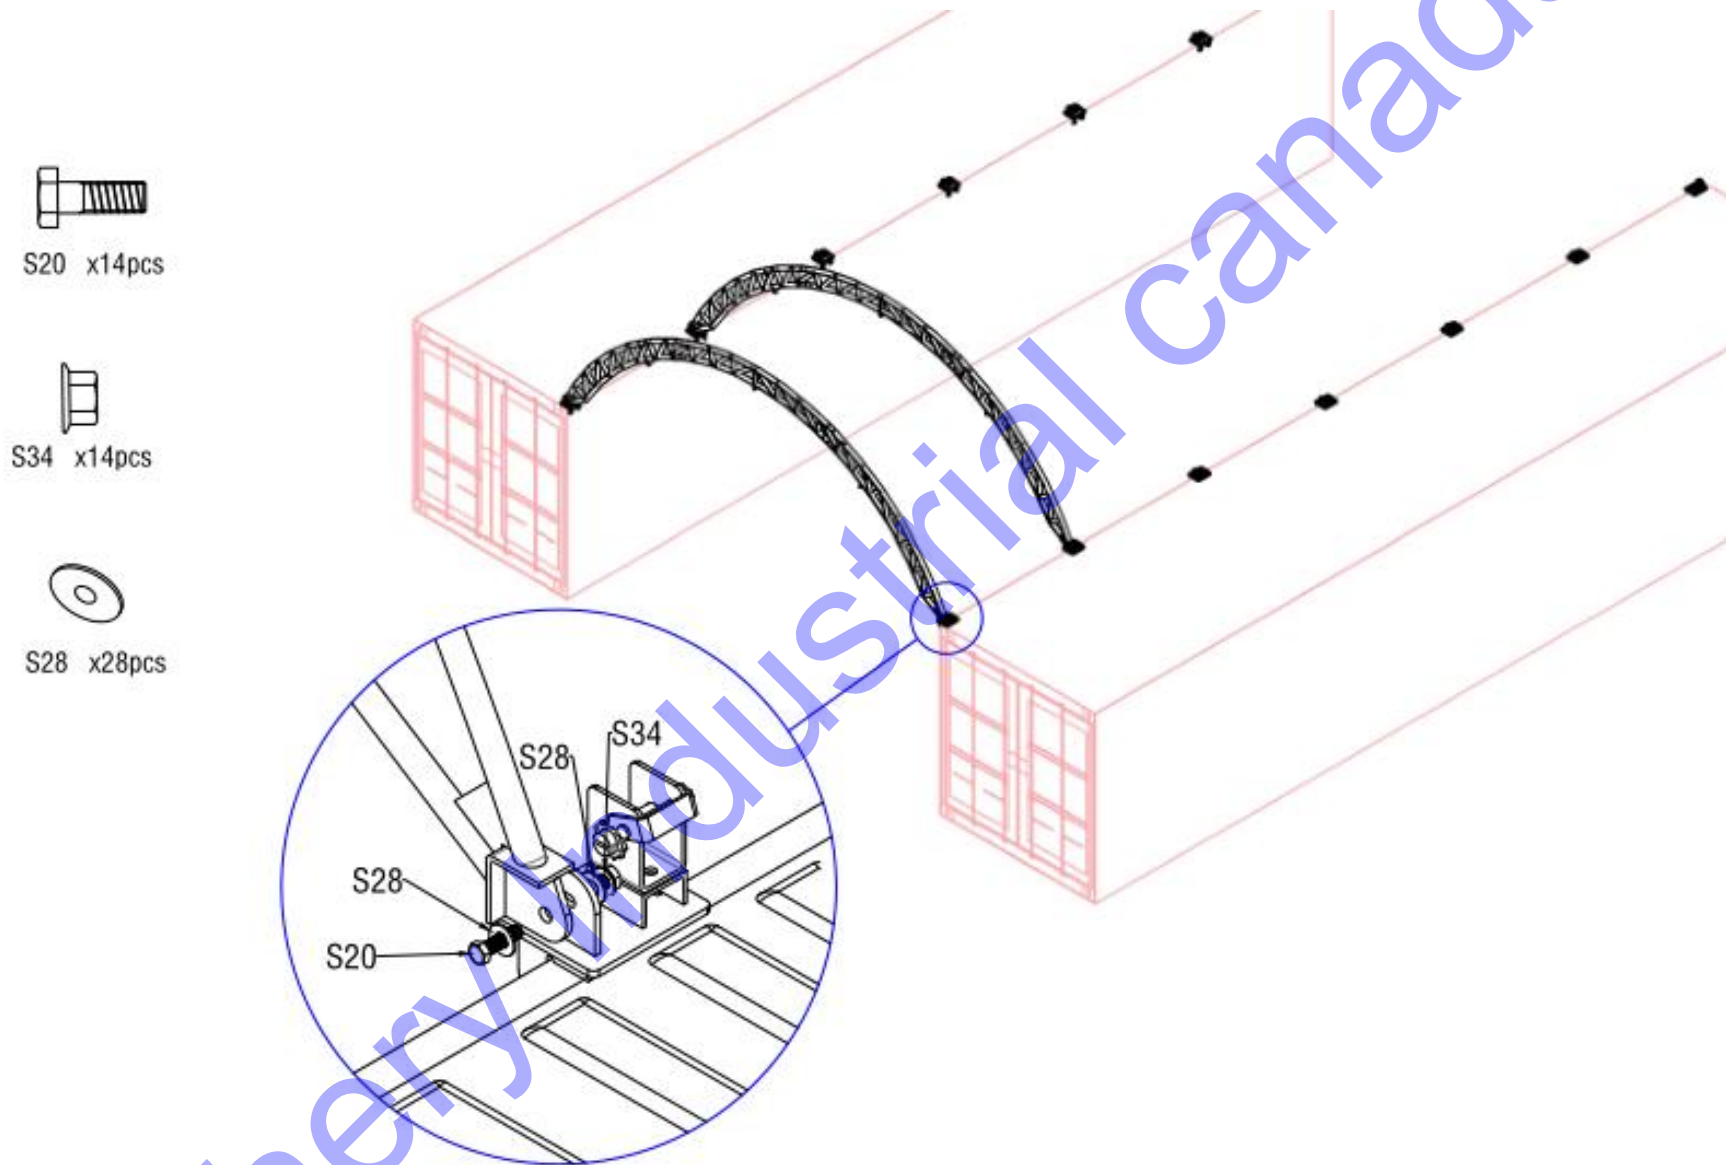

Figure 4
2.3 Lift an assembled arch onto one base plate and connect the arch with the base plate by using Bolt M14x50mm (Part no.S20), and force the other end of the arch onto the opposite base plate by same way as Figure 4 shows.